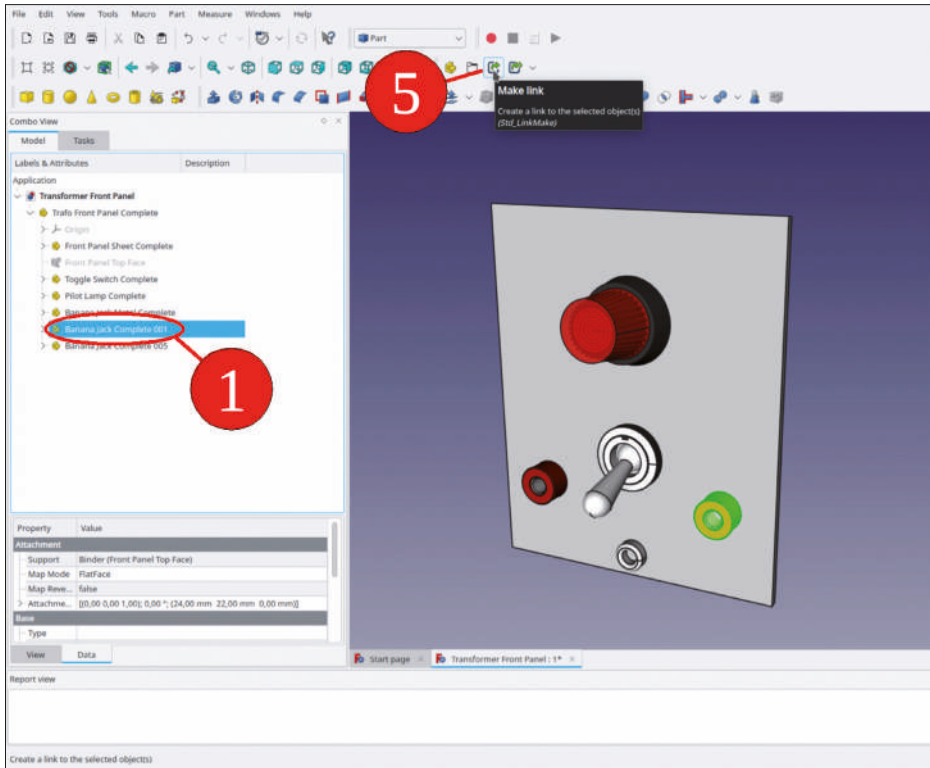

Figure 9-16
6. Rename one of the Std-Part-Containers called 'Banana Jack Complete XXX' to 'Banana Jack Complete 005', and the other one to 'Banana Jack Complete 001' (Figure 9-16). In the tree view, mark 'Banana Jack Complete 001' and click the 'Make link' tool button.